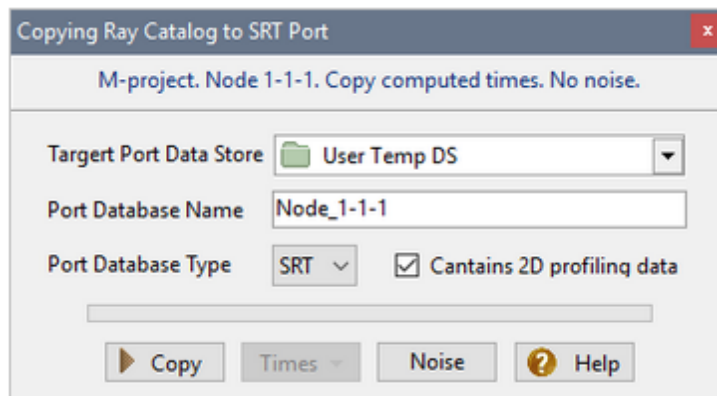

Fig. 3. Copying Ray Catalog to SRT Port.
Ray Catalogs in o- or f-nodes can be copied to SRT Port. The operation is helpful for two aims: (1) using ray catalog content in other projects; (2) modeling observation with the help of forward problem solution. The operation is initiated from the Processing Tree menu. Invoke it on an o- or f-node and select the *Copy Ray Catalog to SRT Port* command. It starts the copying module whose main widow is shown on fig. 3.
noised. The default target database name is shown on fig. 3. It can be edited. For a port database, observation data type (profiling data or other) must be defined. In case of copying from an f-node of an M-project, the user defines data type with the help of the *Database contains 2D profiling data* check box. In all other cases, the flag is set automatically and cannot be changed. The *Copy* button starts the operation.